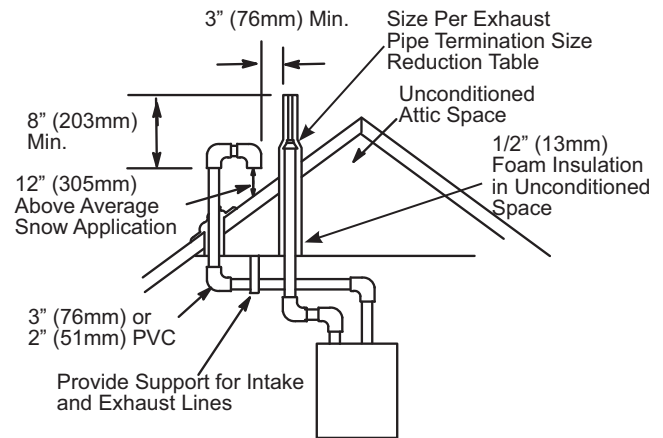

Figure 25. Direct Vent Roof Termination Kit
Intake and exhaust pipes may be routed either horizontally through and outside wall or vertically through the roof. In attic or closet installations, vertical termination through the roof is preferred. **Figure 25** through **Figure 29** show typical terminations.
3. On roof terminations, the intake piping should terminate straight down using two 90° elbows (see **Figure 25**).